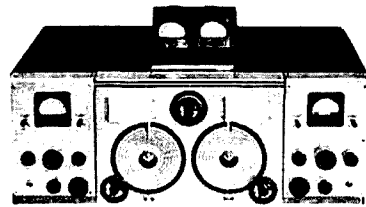

fig. 5. The prototype of the DD-1 as described by McLaughlin and Miles (from reference 8).
3. George E. Smith, "Mono-Band Log-Periodic Antennas, part 1," *73*, March, 1975, page 106 (fig. 5).
Hallicrafters design. McLaughlin later joined Hallicrafters as a consultant and collaborated with Karl Miles, then Chief Engineer of Hallicrafters, in redesigning the earlier receiver. Some electrical improvements were made, but the major changes appear to be mechanical; that is, repackaging. This receiver is described in *QST*, December, 1937.8 It was also made under the sponsorship of Dr. Hard and is what I call the prototype model of the DD-1. A photograph taken from the McLaughlin-Miles article is shown in fig. 5.